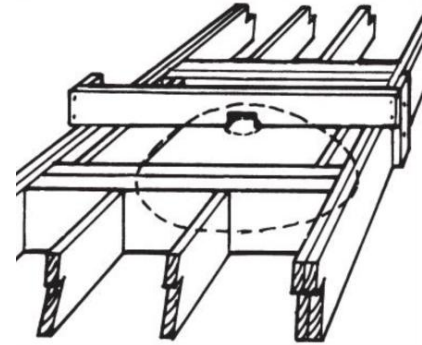

FIGURE 1
- **Frame and Wallboard Construction:** Cut wallboard and remove necessary sections of joist. Add as needed for support (*figures 1 & 2*): (1) framing members, (2) double members on each side and perpendicular to ceiling joist, (3) over the top to hold electrical box.